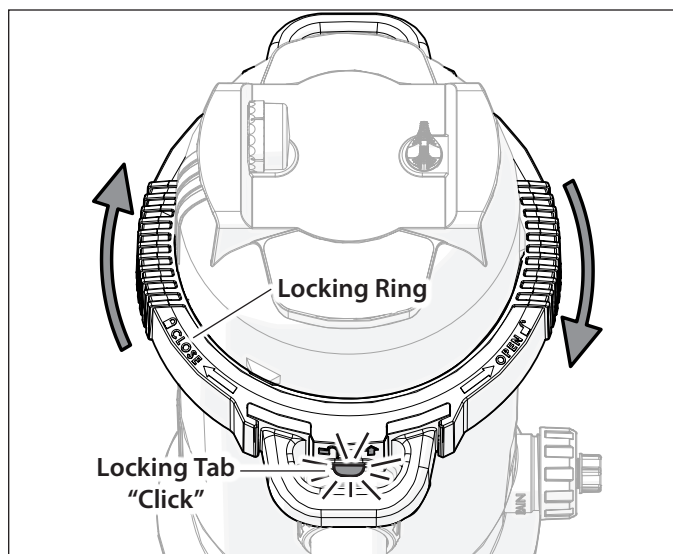

Figure 12. Secure Locking Ring
4. Make sure the locking ring is closed tight (fully clockwise) and the locking tab is engaged. When closing the locking ring, the locking tab will “click” as it engages (Figure 12).